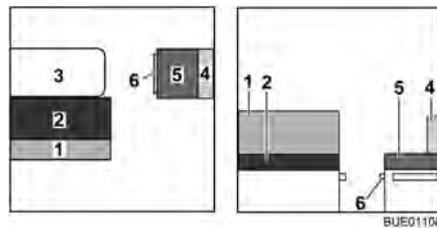

Fig. 118 Prior to conversion
- Convert the table (Fig. 118,3) to a bed foundation (see section 6.10).
- Remove the back cushion (Fig. 118,1) and lay it aside.
- Remove the back cushion (Fig. 118,4) and the seat cushion (Fig. 118,5) and lay them aside.